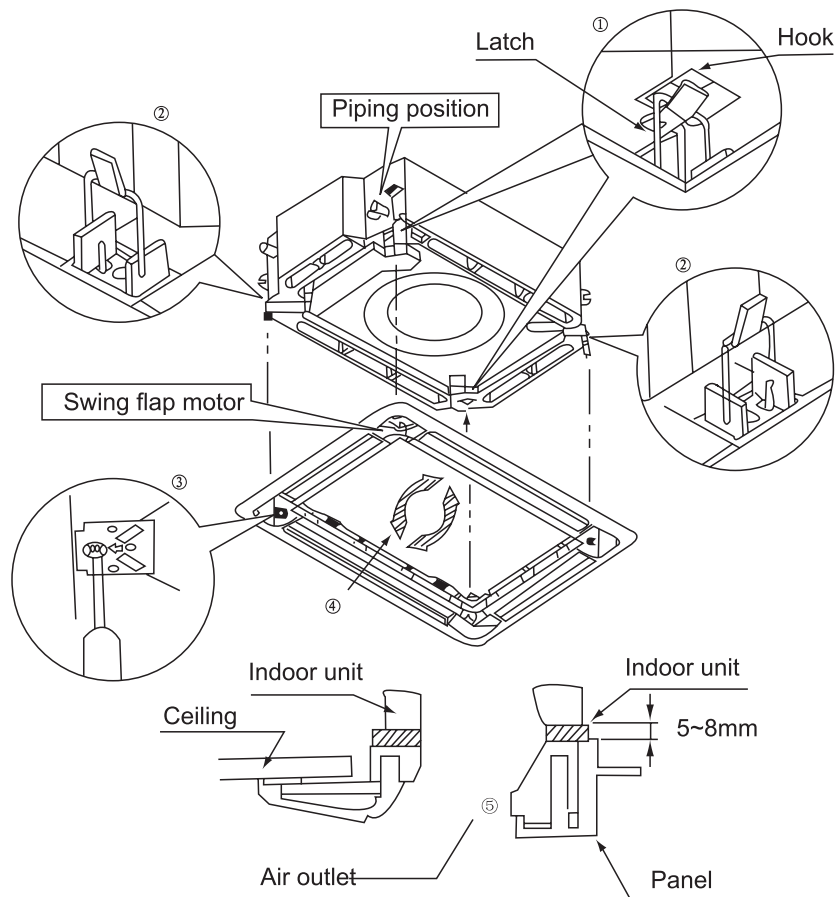

Figure 3-1-45
(5). Adjust the panel along the direction indicated by the arrow as shown in Figure 3-1-45.